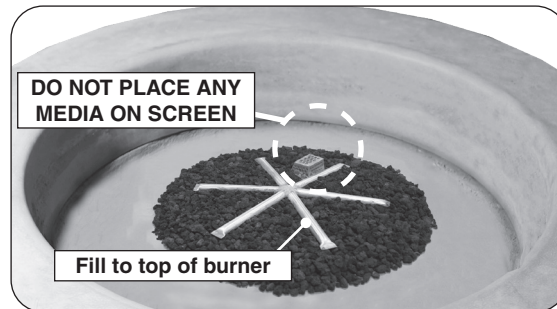
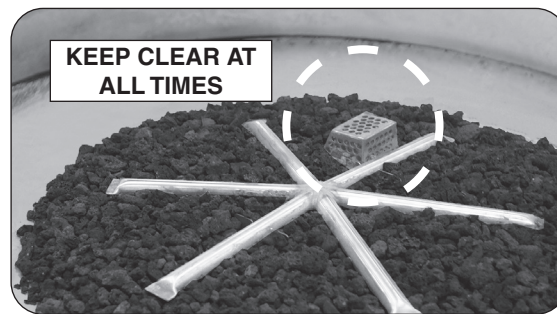

Fig. 34-1 Place lava granules
Fig. 34-2 Screen detail
1. Pour the 10 lb bag of lava granules into the burner area (with the exception of the screen). Spread the granules within the burner area as shown in Fig. 34-1 and Fig. 34-2. **Only fill the granules up to the top of the burner tube.**